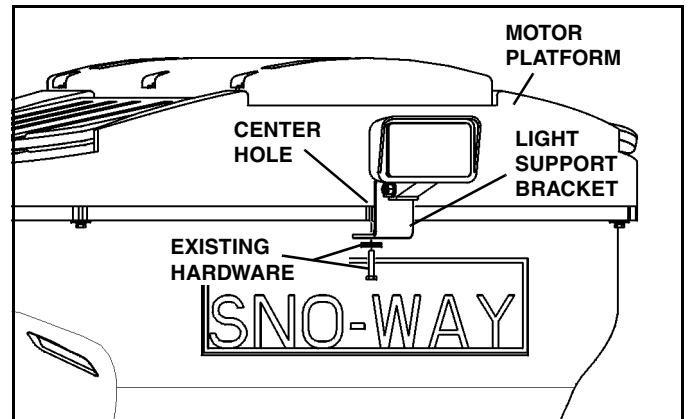

Figure 1-2
Remove and retain the 1/4"-20 x 1-14" cap screw and (2) flat washers that secure the center hole in the motor platform to the hopper. (See Figure 1-2).